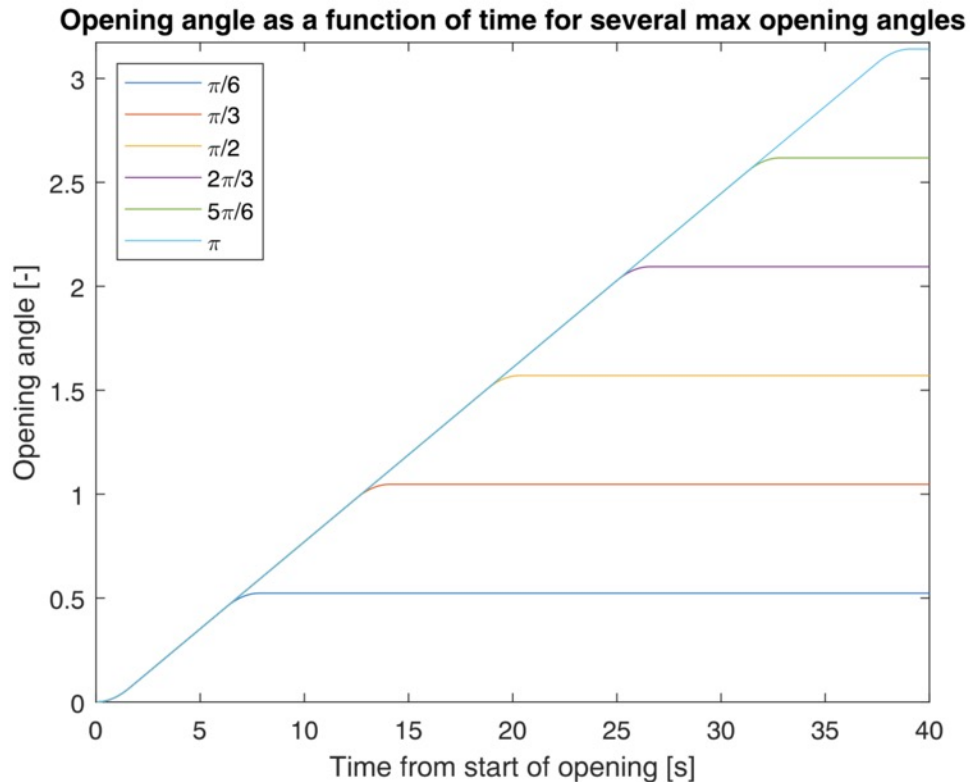

Figure 1: Antenna deployment as a function of time for various target angles.
*The mechanism shall deploy an antenna (cf. Figure 1) from its stowed launch configuration to its deployed configuration*
*The angular range of the deployment performed by the mechanism shall be  $[0^\circ; 180^\circ]$  (angle  $\alpha$  on Figure 1)*